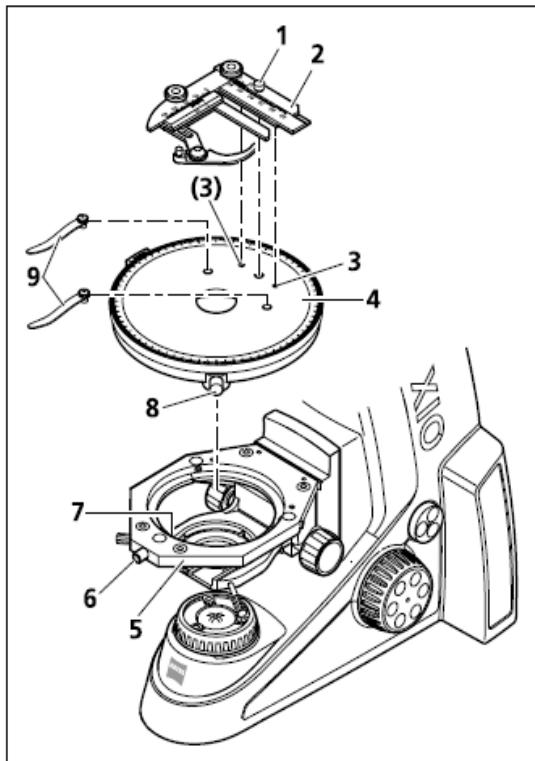

图. 3-12 安装旋转偏光载物台, 偏光样品夹或常规样品夹
- | Place rotary stage Pol with the groove of the dovetail (stage bottom) on spring-loaded pin (Fig. 3-12/7).
- | Attach the rotary stage with the clamp screw (Fig. 3-12/8) pointing to the front right.
- | Press the rotary stage Pol to the front against the spring-loaded pin and lower it towards the back into the stage carrier (Fig. 3-12/5), then release it.
- | Re-tighten screw cap (Fig. 3-12/6).
- | Loosen the knurled screw (Fig. 3-12/1) on the specimen guide Pol. Withdraw the specimen guide Pol (Fig. 3-12/2) upwards.
- | Insert the stage clips (Fig. 3-12/9) into the holes provided.
- Loosen screw cap (Fig. 3-12/6) from the spring housing (about three rotations).
- Press rotary stage Pol (Fig. 3-12/4) to the front against spring-loaded pin (Fig. 3-12/7), lift it off the stage carrier (Fig. 3-12/5) from the back and remove it upwards.
- Re-tighten screw cap (Fig. 3-12/6).
- | Where necessary, loosen screw cap (Fig. 3-12/6) of spring housing with approx. three rotations.
- | Remove the stage clips (Fig. 3-12/9) from the rotary stage Pol.
- | Insert the specimen guide Pol (Fig. 3-12/2) with the two cylindrical pins on the underside into the holes provided (Fig. 3-12/3) and tighten the clamp screw (Fig. 3-12/1).